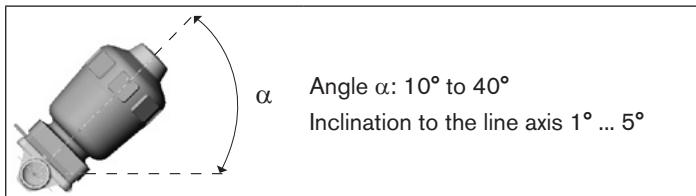

Fig. 2: Installation position for self-drainage of the body
- Install body at an angle $\alpha = 10^\circ$ to 40° to the horizontal (see „Fig. 2“).